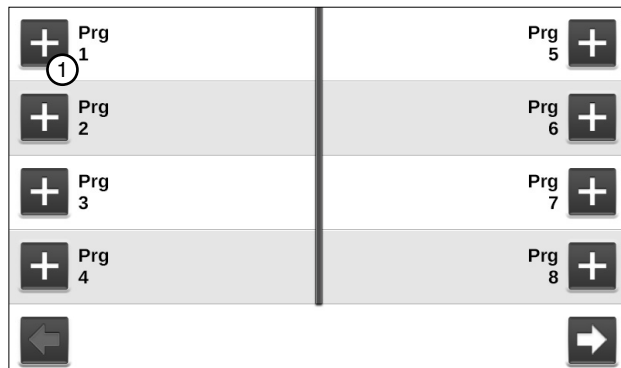

Figure 114-2 Step Programs Screen
1. Push **Menu**, **Programs**, and **Step Programs** to view the Step Programs screen. Refer to Figure 114-2.
2. Push the **New Program** button corresponding to the preferred program number as shown in Figure 114-2.